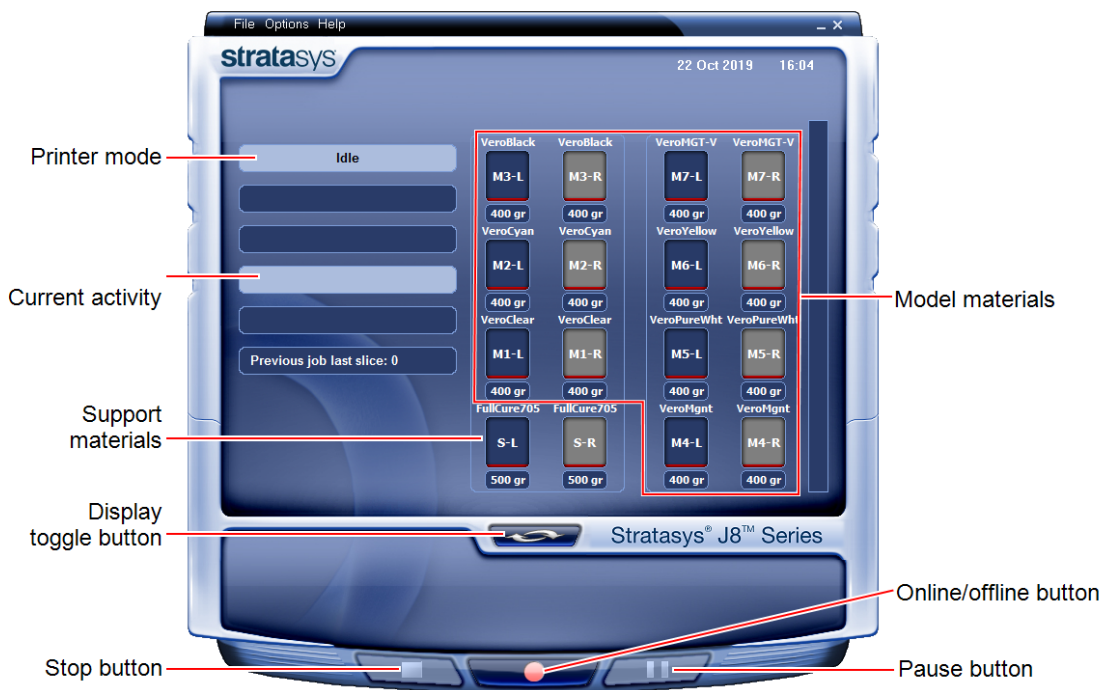

Figure 4-3 Printer interface
3. Make sure that there is sufficient model and support material loaded, as indicated on the printer interface (see Figure 4-3 on page 4-4. You may want to replace the cartridges of model and support material currently loaded in the printer to avoid the need for replacing them during printing.